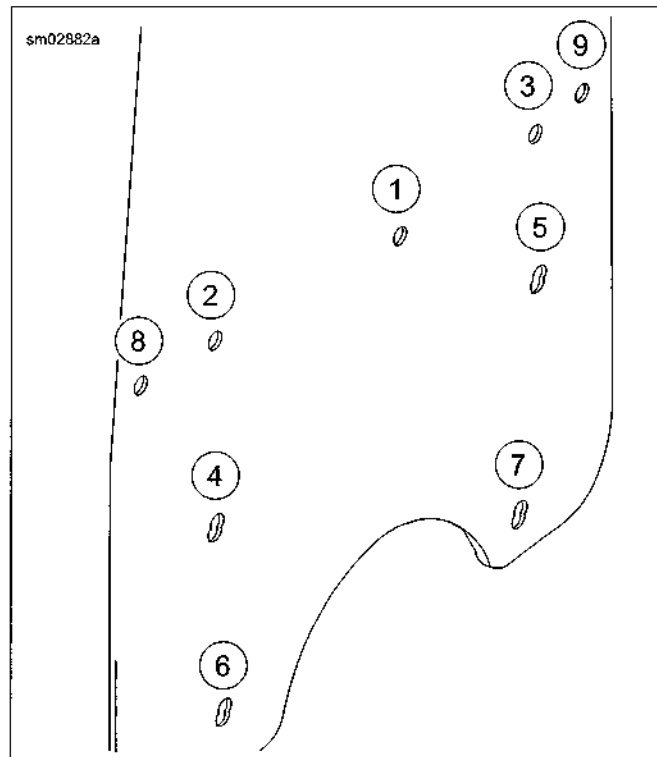

Figure 2-165. Windshield Torque Sequence
- Install **new** screws (6) and acorn nuts (7) in two outer horizontal holes and the center horizontal hole.
- Install the left (8) and right (9) mounting brackets to the windshield with **new** screws (10), washers (11) and acorn nuts (12).
- See Figure 2-165. In sequence, tighten to 23-27 **in-lbs** (2.6-3.1 Nm).